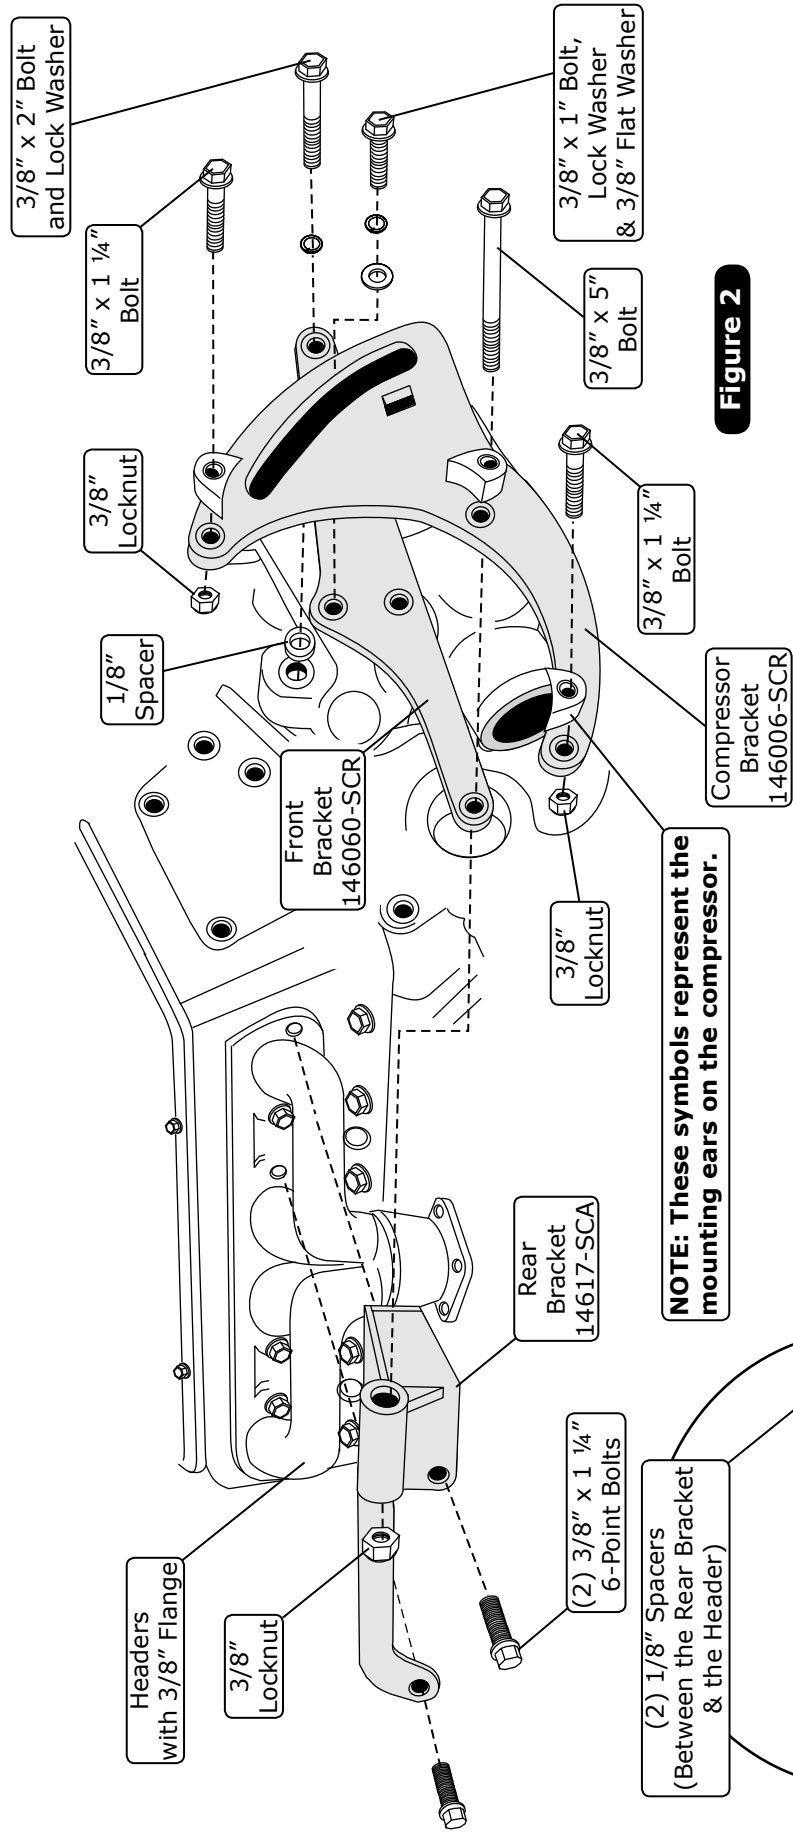

Figure 2
3. Attach the front bracket to the water pump using a 3/8" x 2" bolt, lock washer and 1/8" spacer (See Figure 2, Page 5).
4. Attach the rear bracket to the header using (2) 3/8" x 1 1/4" 6-point bolts (See Figure 2, Page 5).